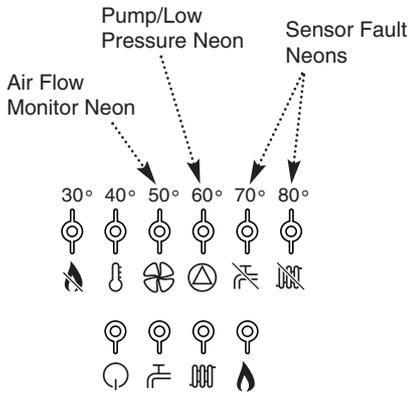

Fig. 13
2. If the neon illuminates (⊗) it indicates that the flue or flue terminal is blocked or obstructed in some way, or that there is an internal fault. If there is no external blockage of the flue terminal that can be easily removed contact your Service Engineer (Fig. 13).
1. The neon (⊕) will illuminate if the circulating pump is faulty or the system pressure drops below the minimum requirement (Fig. 13).
1. When the (⊖) or (⊗) neon is illuminated a fault on the hot water or central heating temperature sensor is indicated (Fig. 13). Contact your Service Engineer.